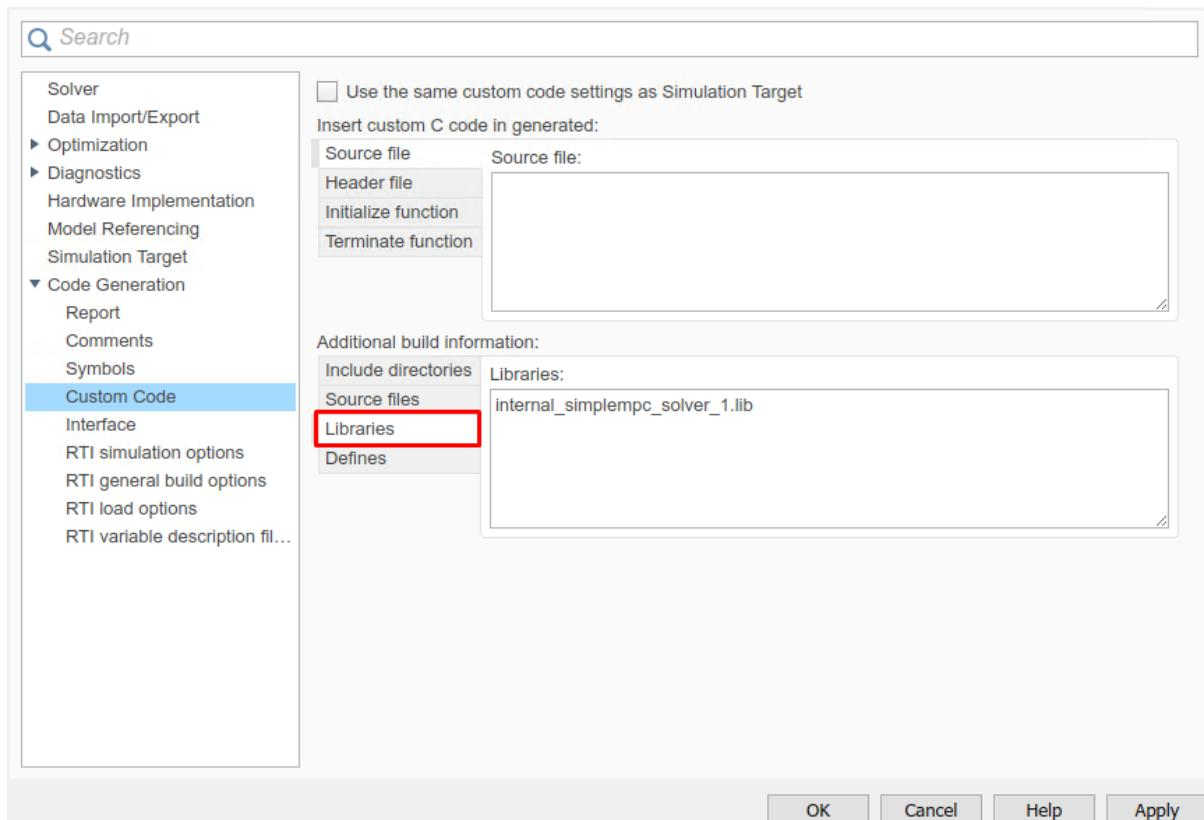

Figure 13.26: Add the libraries used for the code generation.
- (Figure 13.26) In the “Code Generation/Custom Code” tab, add the library files: